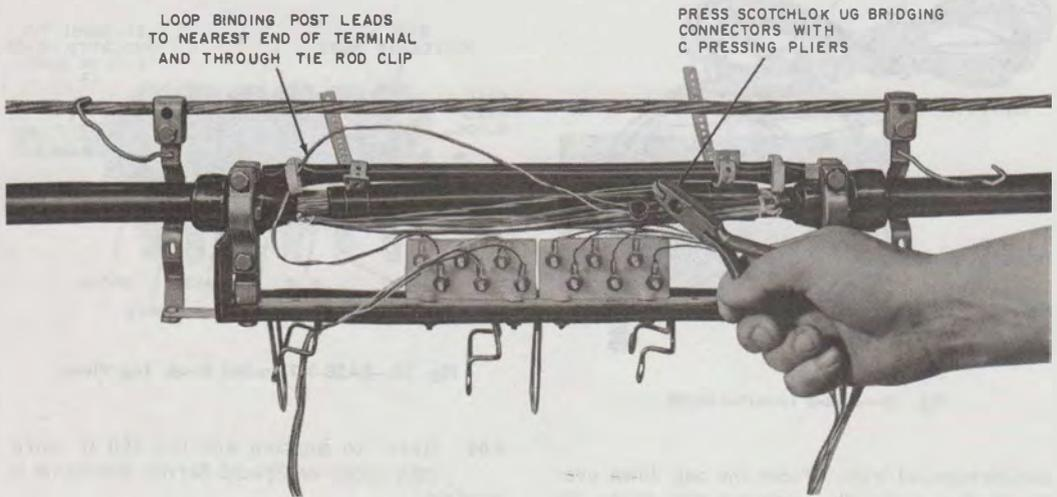

Fig. 25—Bridging Binding Post Leads to Cable Conductors
3.08 Current terminals are furnished with two terminal blocks (Fig. 25) in positions 2 and